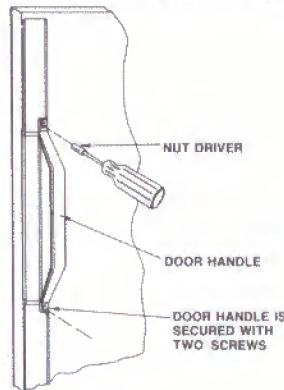

FIGURE 4
2. Remove the upper and lower door handle screws. See Figure 4.